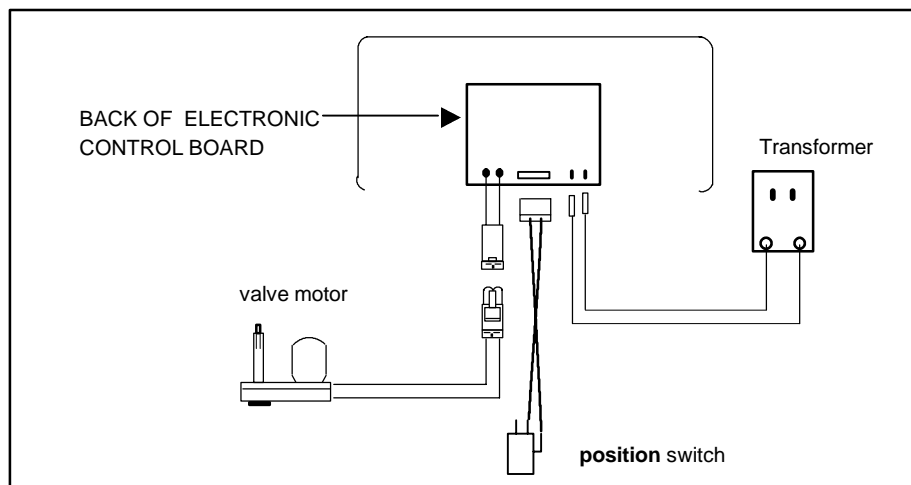

Figure 1
3. Unplug wire harness from position switch. **See Figure 1.**
4. Unplug motor terminals and power supply terminals from back of electronic control board. **See Figure 1.**
7. Plug the motor terminal, position switch wire harness and the power supply terminals back onto the electronic control board. **See Figure 1 for correct positioning.**
9. Plug position switch wire harness back on to position switch under the motor. **See Figure 1.**